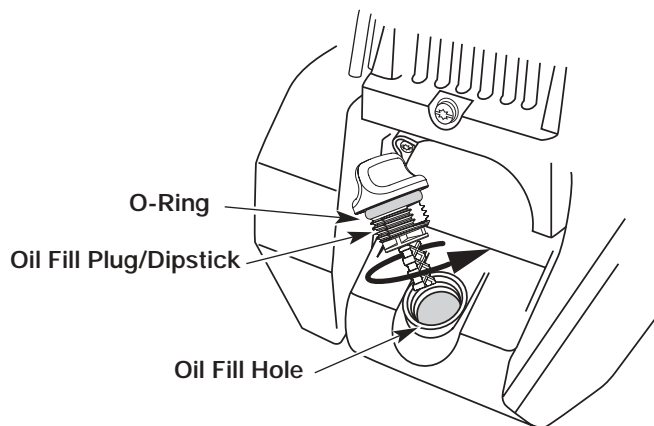

Fig. 17
3. Remove the oil plug / dipstick from the crankcase (Fig. 17).